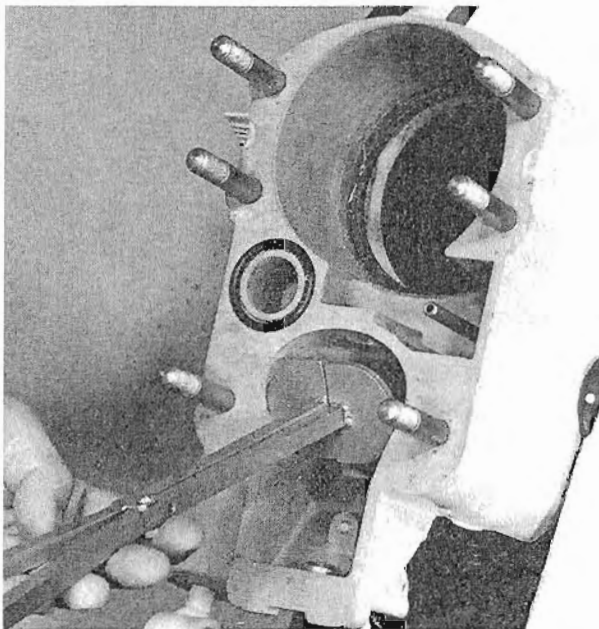

Figure 1. Tool Placed in Bell Housing Exhaust Outlet
1. Place exhaust bellows expander into bell housing exhaust outlet. (Figure 1)